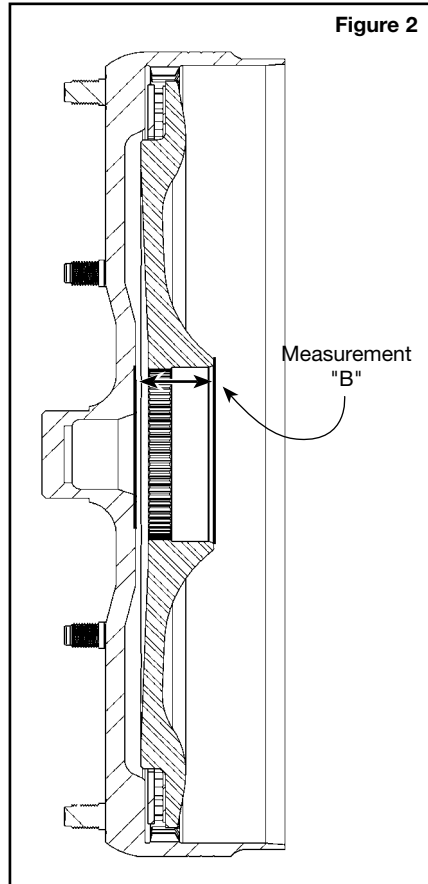

Figure 2
- b. Place clutch plates and piston into the front cover (**Figure 2**). Measure from inner lip of piston bore to the thrust face on front cover ("**B**" in **Figure 2**).